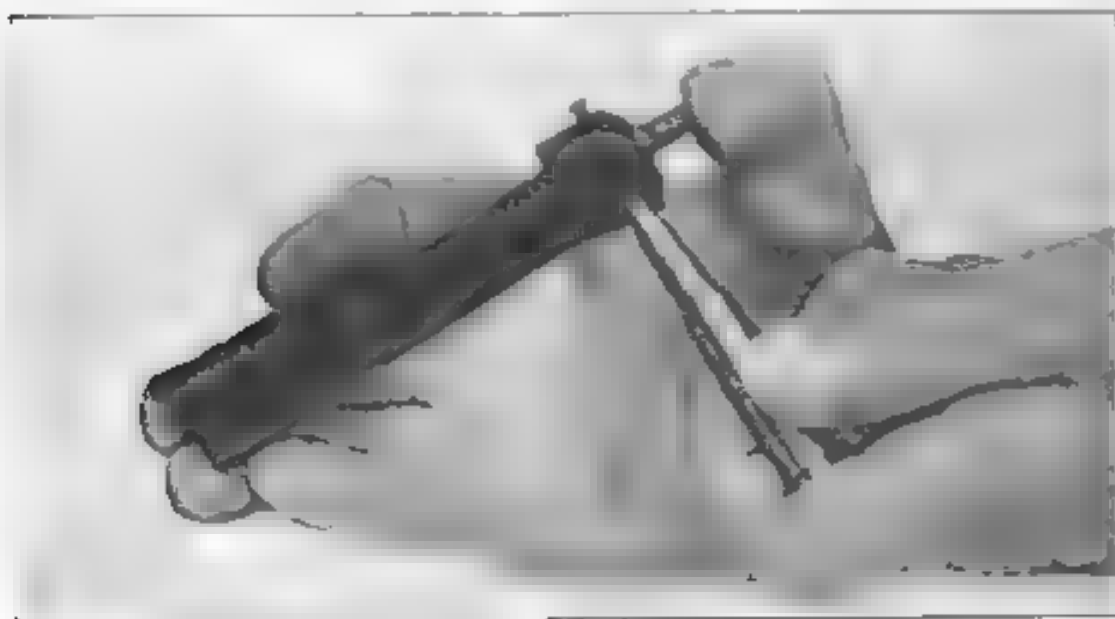

Fig. 40
d) To remove the firing pin, press on the rear end of the firing pin, push out the retaining pin; if the pin does not fall out easily, use the nose of a cartridge (fig. 40)